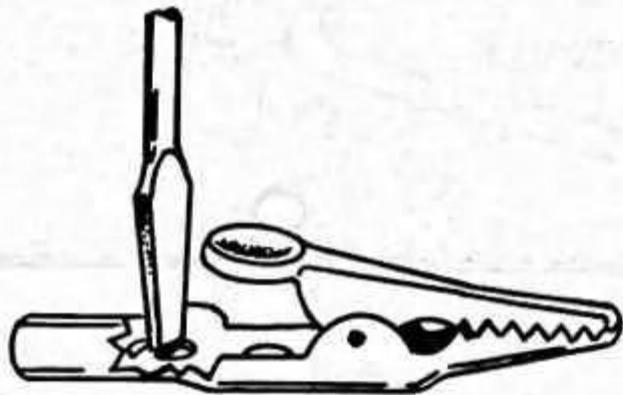

FIGURE 18. PREPARING THE PROBE CLIP
- Alligator clip for the probe tip. With the tip of your screwdriver, push down the dimple in the shank of the clip — see Figure 18. This will allow the clip to fit over the probe tip.